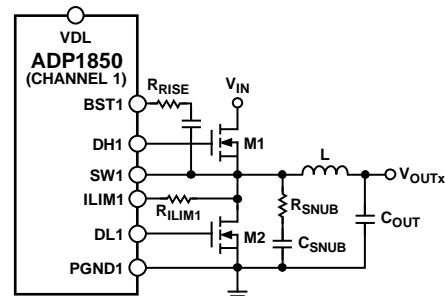

Figure 35. Application Circuit with a Snubber
In any high speed step-down regulator, high frequency noise (generally in the range of 50 MHz to 100 MHz) and voltage overshoot are always present at the gate, the switch node (SW), and the drains of the external MOSFETs. The high frequency noise and overshoot are caused by the parasitic capacitance, C_{GD} , of the external MOSFET and the parasitic inductance of the gate trace and the packages of the MOSFETs. When the high current is switched, electromagnetic interference (EMI) is generated, which can affect the operation of the surrounding circuits. To reduce voltage ringing and noise, it is recommended to add an RC snubber between SWx and PGNDx for high current applications, as illustrated in Figure 35.
In most applications, a component size 0805 for R_{SNUB} is sufficient. However, the use of an RC snubber reduces the overall efficiency, generally by an amount in the range of 0.1% to 0.5%. The RC snubber does not reduce the voltage overshoot. A resistor, shown as R_{RISE} in Figure 35, at the BSTx pin helps to reduce overshoot and is generally between 2 Ω and 4 Ω . Adding a resistor in series, typically between 2 Ω and 4 Ω , with the gate driver also helps to reduce overshoot. If a gate resistor is added, then R_{RISE} is not needed.